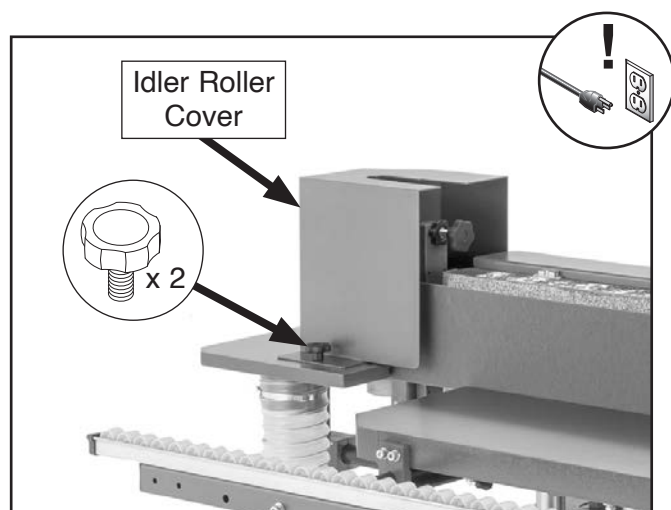

Figure 30. Idler roller cover installed on end table.
16. Place idler roller cover on end table, then secure with (2) M8-1.25 x 16 knob bolts (see **Figure 30**).